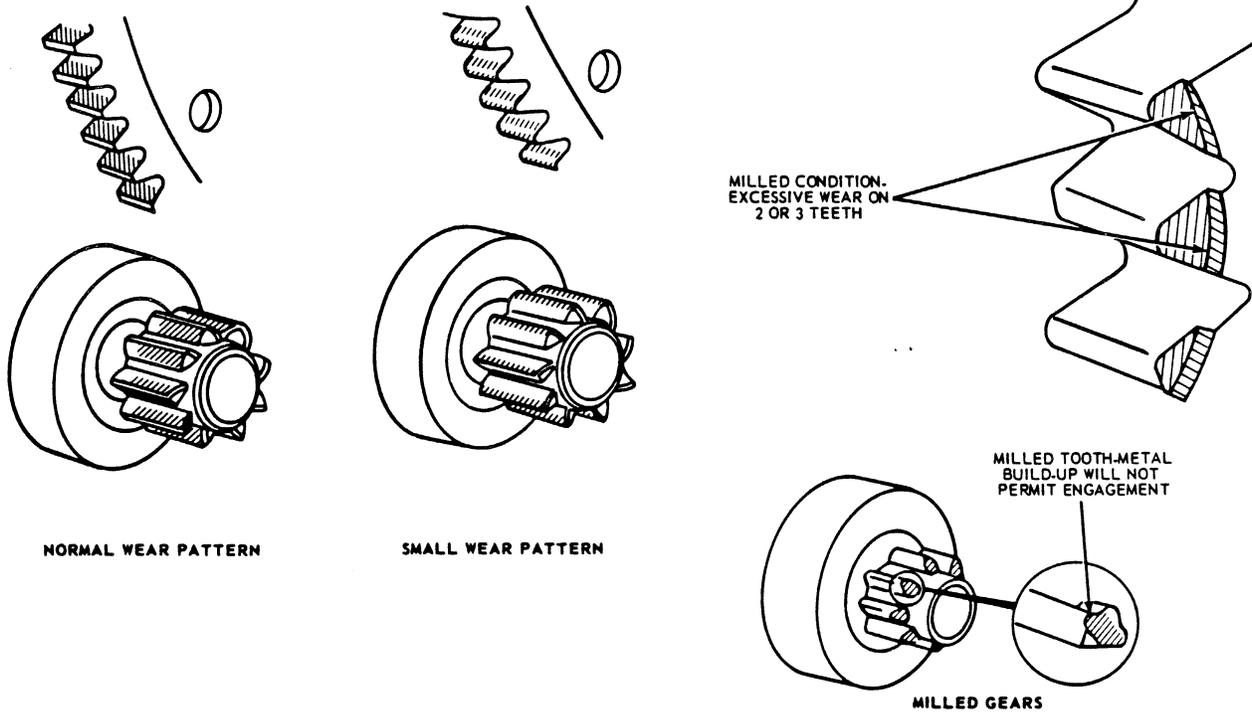

FIG. 11 Pinion and Ring Gear Wear Patterns
8. Examine the wear pattern on the starter drive teeth. The pinion teeth must penetrate to a depth greater than 1/2 the ring gear tooth depth (Figure 11), to eliminate premature ring gear and starter drive failure.
9. Replace starter drives and ring gears with milled, pitted or broken teeth or that show evidence of inadequate engagement (Figure 11).